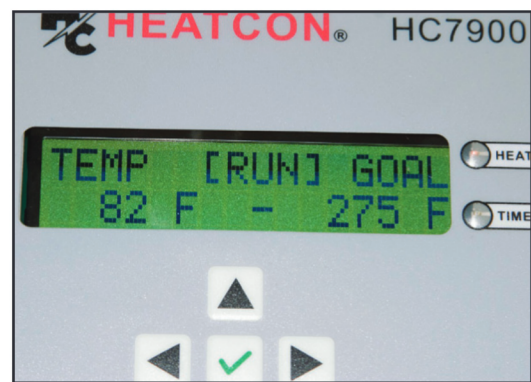

Figure 13
2. The controller will enter the “Run Mode” as shown in (Fig. 13). The HEAT LED will begin to flash. The “TEMP” reading is the current temperature of the blankets. The “GOAL” shows the desired temperature.